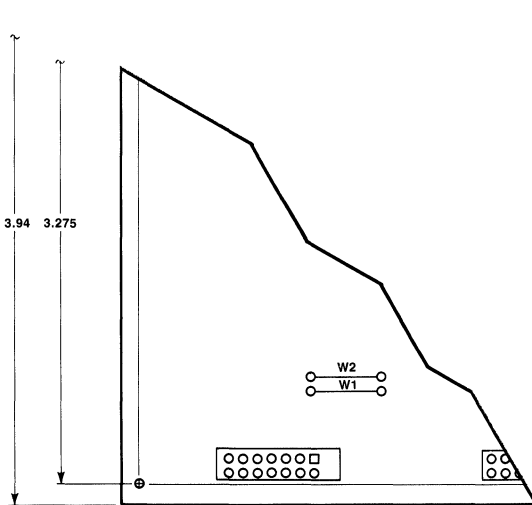

Figure 1. RDAA Module Jumper Selection Location
By jumper selection (Figure 1) the RDAA can be configured to operate in either the Programmable (PG) or Permissive (PM) connection arrangement. This is accomplished by placing the jumper in either the W2 or W1 locations for the desired mode. W1 jumper in, W2 jumper out for the permissive mode. W2 jumper in, W1 jumper out for the programmable mode.